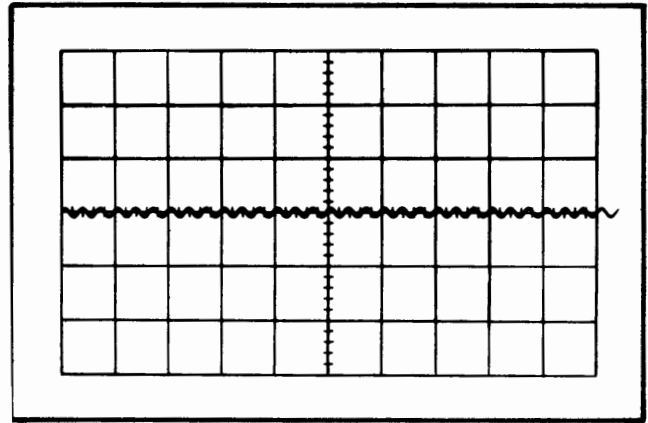

Fig. 5-26. Typical CRT display when checking low-frequency reject operation at 30 kilohertz.
c. CHECK—Stable CRT display (see Fig. 5-26) can be obtained with the A LEVEL control.
i. CHECK—Stable CRT display (see Fig. 5-26) can be obtained with the B LEVEL control.